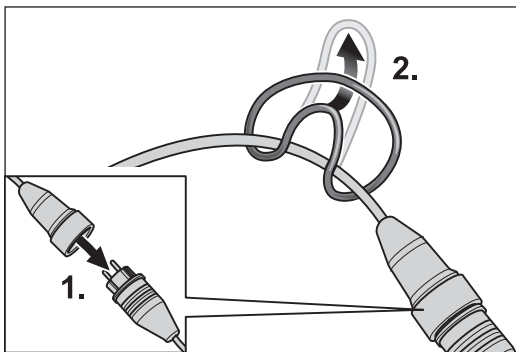
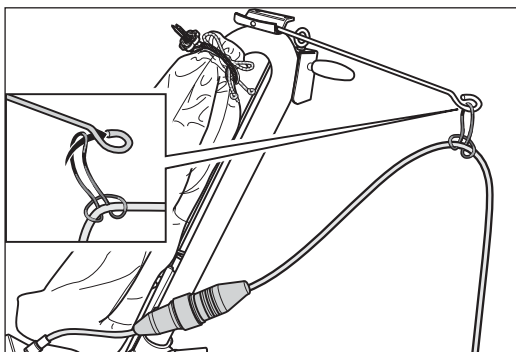

Fig. 13 Combine the motor cable with the extension cable (1.). Fasten the strain relief ring on the extension cable (2.).
Fig. 14 Mount the strain relief ring on the cable support.
- 2 Combine the motor cable with the extension cable (Fig. 13, 1.).
- 3 Fasten the strain relief ring on the extension cable (Fig. 13, 2.). Mount the strain relief ring on the cable support (Fig. 14).